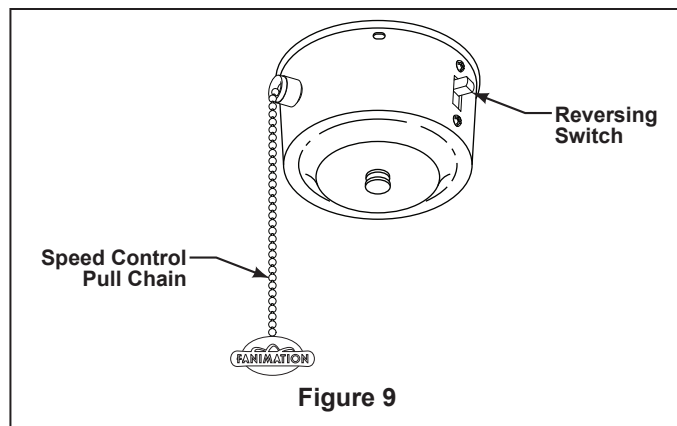

Figure 9
2. Check the operation of the fan by gently pulling on the pull chain switch. (Figure 9)